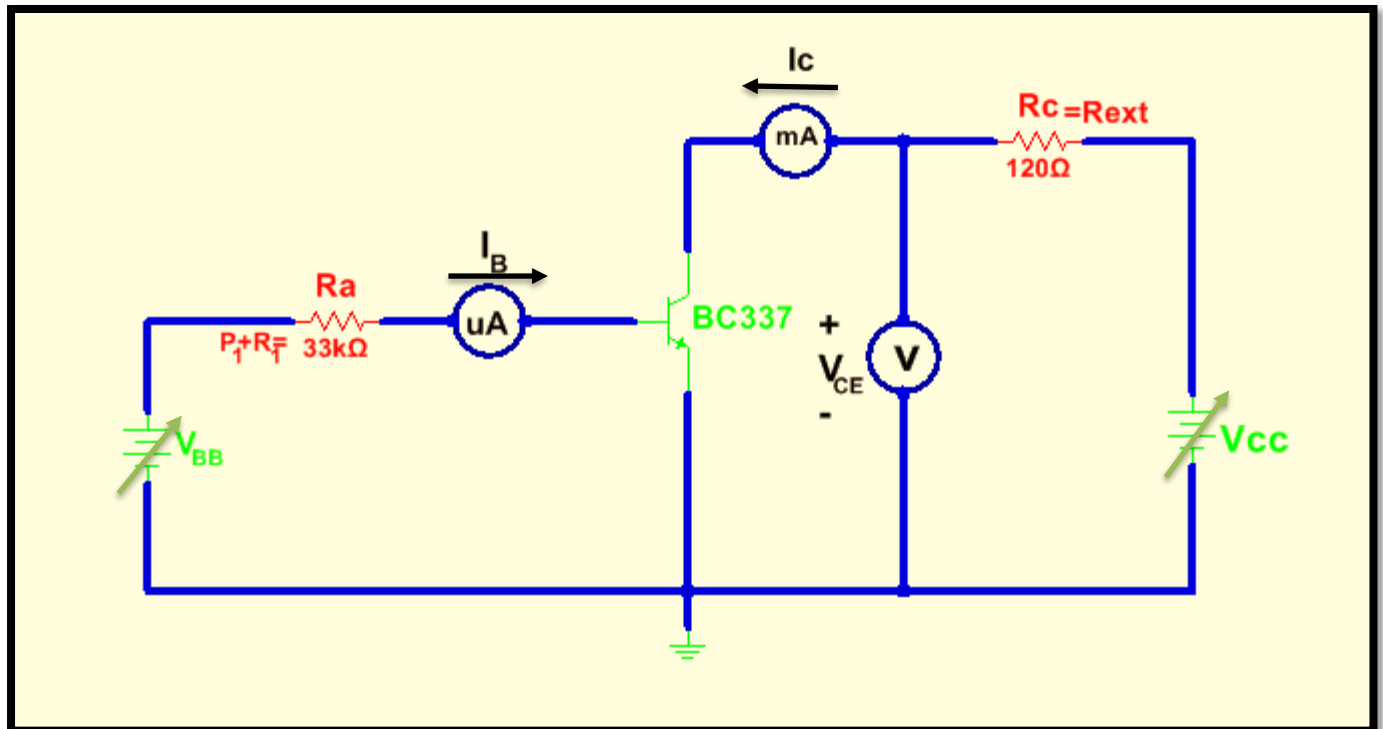

Figure 13: Transistor Test Circuit Used to obtain the Output Characteristics
4. Connect the circuit shown in Fig.13 to obtain the output characteristics of the transistor.